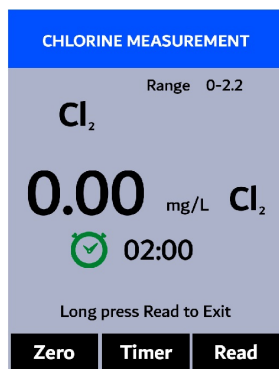

Figure 25.
3. Rinse the sample cell three times with deionized (DI) water. Fill the sample cell with DI water.
6. Press **OK** to launch the **CHLORINE MEASUREMENT** screen (Figure 25).